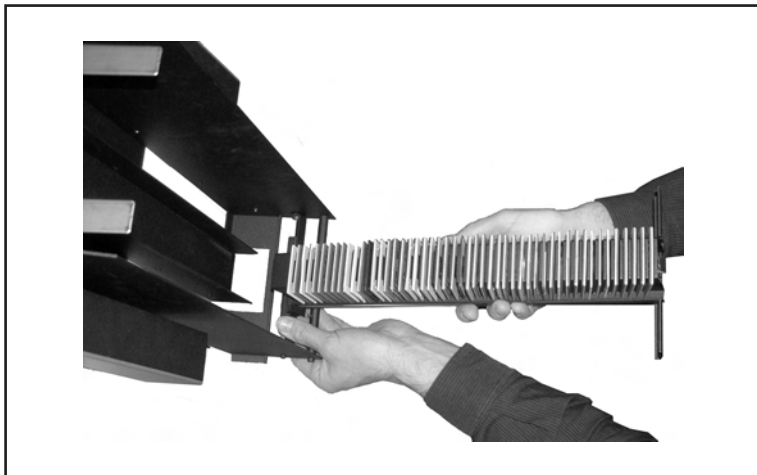

Figure 10: Removing the magazine drawer from its hinge.
3. The magazine drawer can be removed from its hinge. Do this now by grabbing the bottom of the Slide Feeder near the hinge with one hand and grasping the magazine drawer with the other hand. Hold the drawer from below and about halfway up (see Figure 10, next page). Use the hand that is holding the Feeder to keep the Feeder steady while using your other hand to pull the drawer straight away from the Feeder; rocking gently from left to right can help loosen it. The drawer will come free from its hinge.